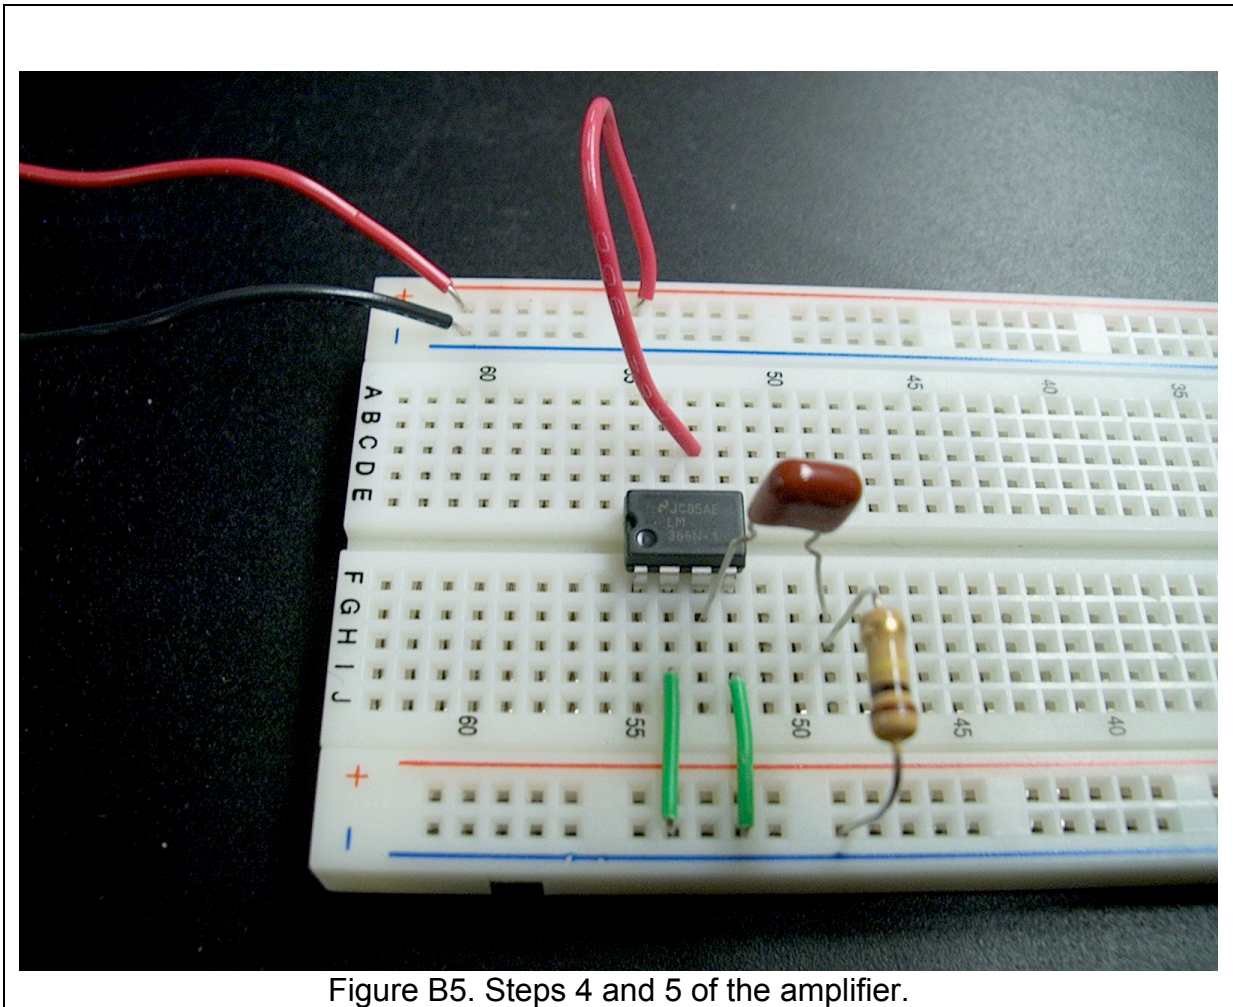

Figure B5. Steps 4 and 5 of the amplifier.
4. Connect the 0.1  $\mu\text{F}$  capacitor from pin 3 to a row that you are not using, Figure B5. This row should have no other components in it (yet) and should NOT be a bus.